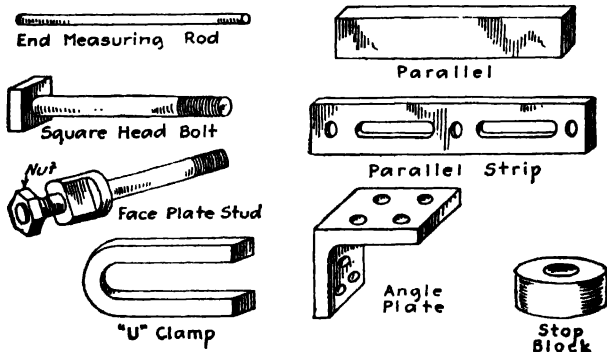

Fig. 18-1. Accessories for faceplate work.
It is of course essential that the work is accurately fastened or clamped in position on the faceplate, and for this purpose certain accessories are necessary. Sketches and descriptions of some of these are here given (Fig. 18-1), and examples showing their use follow.
**DEFINITIONS: FACEPLATE ACCESSORIES (Fig. 18-1)**